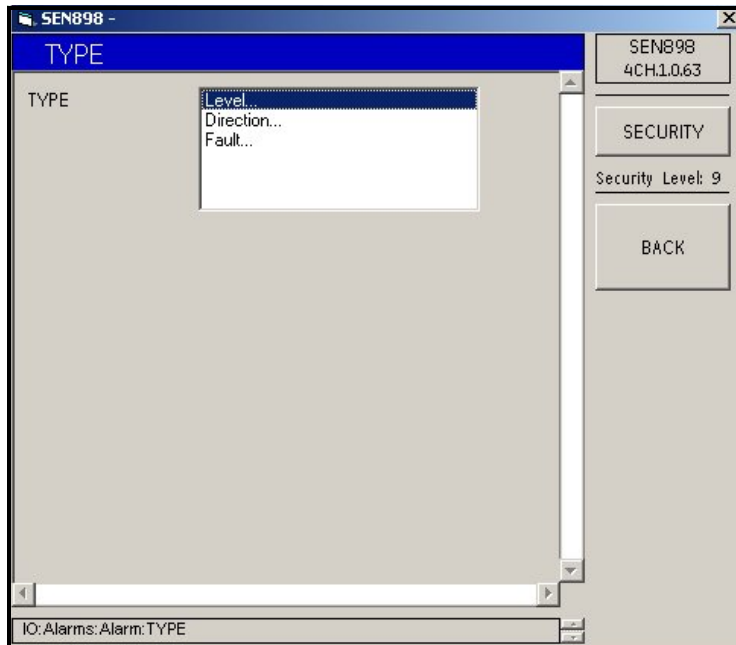

Figure 170: Alarm Type Options
16. To set up the alarm direction, from the Alarm Type Options menu (see Figure 170 on page 138), click twice on Direction... The following screen appears.